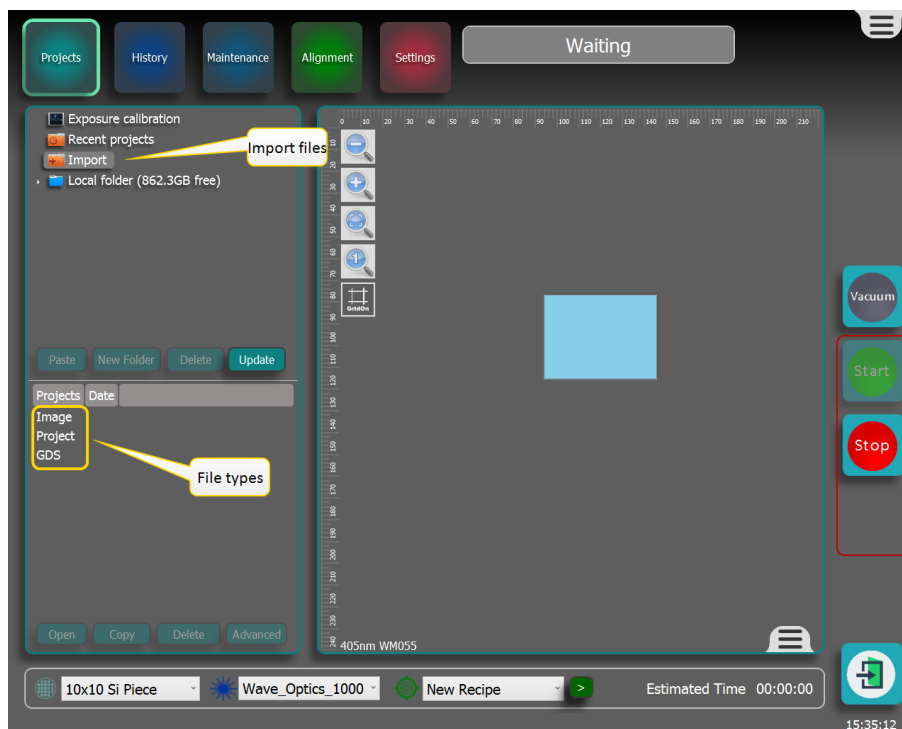

Figure 3-39 Importing a project file
1. Press **Import**, see **Figure 3-39** below.
2. Select the file type, see **Figure 3-39** above.